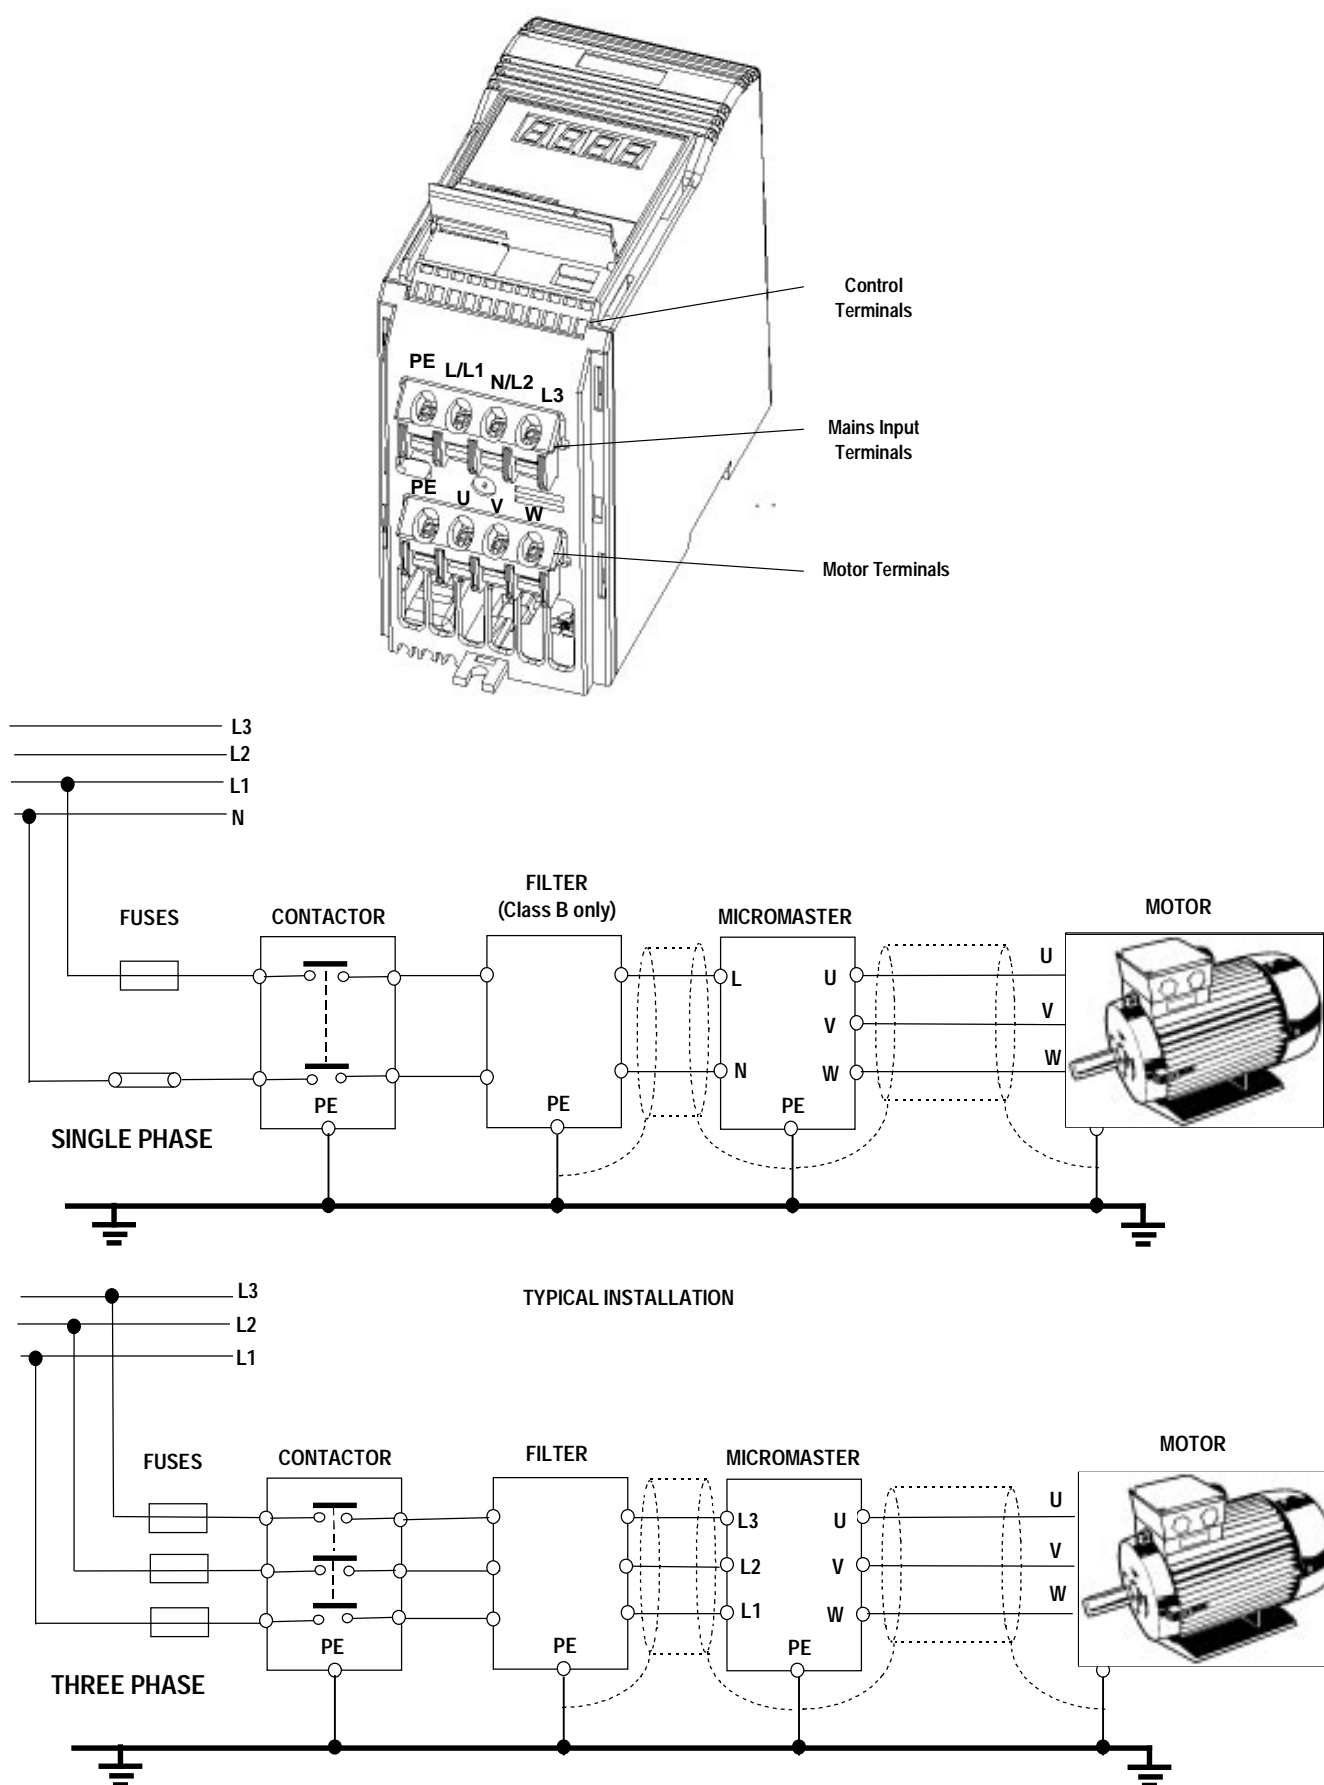

Figure 3: Power Connections
The electrical connectors on the MICROMASTER are shown in Figure 3. Connect the cables to the power and control terminal blocks in accordance with the information supplied in sections 2.3.1 - 2.3.4. Ensure that the leads are connected correctly and the equipment is properly earthed as shown in Figure 3.
Connect the power and motor connections as shown in Figure 3.
The terminal arrangement for frame size B is identical to frame size A (see Figure 3). However, before the wires can be connected to the terminal blocks, you must lower the terminal access panel and secure the cables to the gland plate.
Refer to Figures 3 and 4. Proceed as follows:
6. Connect the wires to the terminal blocks as shown in Figure 3. (See section 2.3.4 for information about connecting the control wires.)
The terminal arrangement for frame size C is identical to frame size A (see Figure 3). However, before the wires can be connected to the terminal blocks, you must lower the fan housing and secure the cables to the gland plate.
4. Connect the wires to the terminal blocks as shown in Figure 3. (See section 2.3.4 for information about connecting the control wires.) IT IS MOST IMPORTANT THAT THE MOTOR AND CONTROL WIRES ARE KEPT APART.